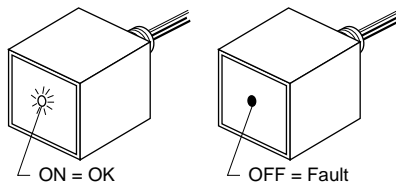

Figure 3: Diagnostic Operation
- LED OFF = Fault, check phase voltage, breakers (if used) and connections. If OK, replace unit. (see Figure 3)